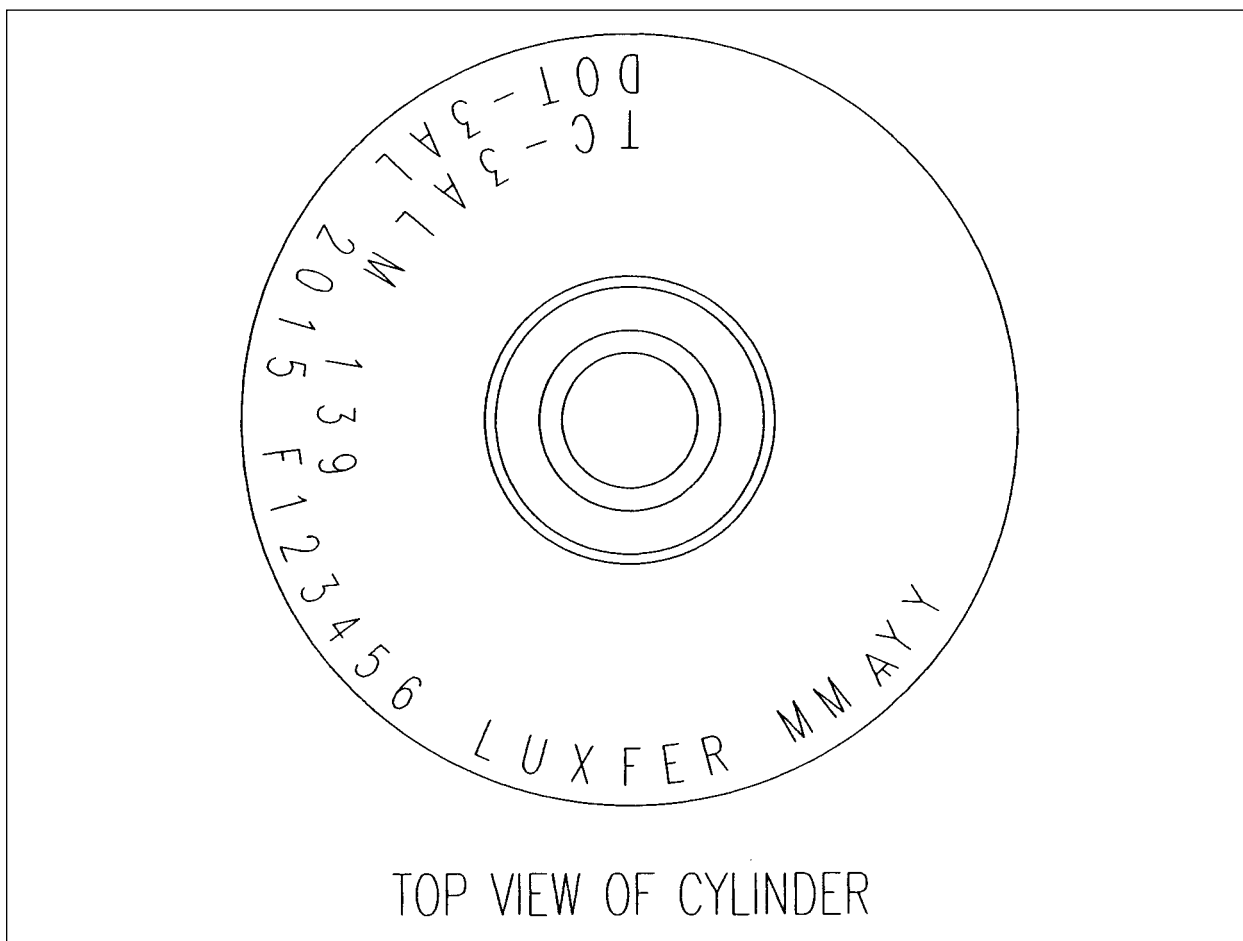

FIGURE 1.
**government specification:** A government's requirements for a cylinder which is usually included in the cylinder marking or on a cylinder label. Each country may have their own specification, or they may accept the USA DOT specification. Within the USA, the government specification of an aluminum SCBA cylinder may be "DOT-3AL," for example, or "DOT-E9894". See FIGURES 1 - 4 for USA examples. See **labels** and **markings**.
**markings:** The words, letters, numbers and symbols stamped into the aluminum portion of a cylinder. Manufacturing markings include cylinder information (date manufactured, date first hydro tested, cylinder type, service pressure [in psig or bar or both], serial number, manufacturer (Luxfer), etc.). Other markings include the hydrostatic retest date(s) and markings authorized to be added by the DOT. Composite hoop-wrapped cylinders may have retest markings stamped into the metal dome portion. See FIGURES 1 and 2.
**stamped markings:** See **markings**. For examples of Luxfer stamped markings used over the years, see FIGURES 1 - 4.